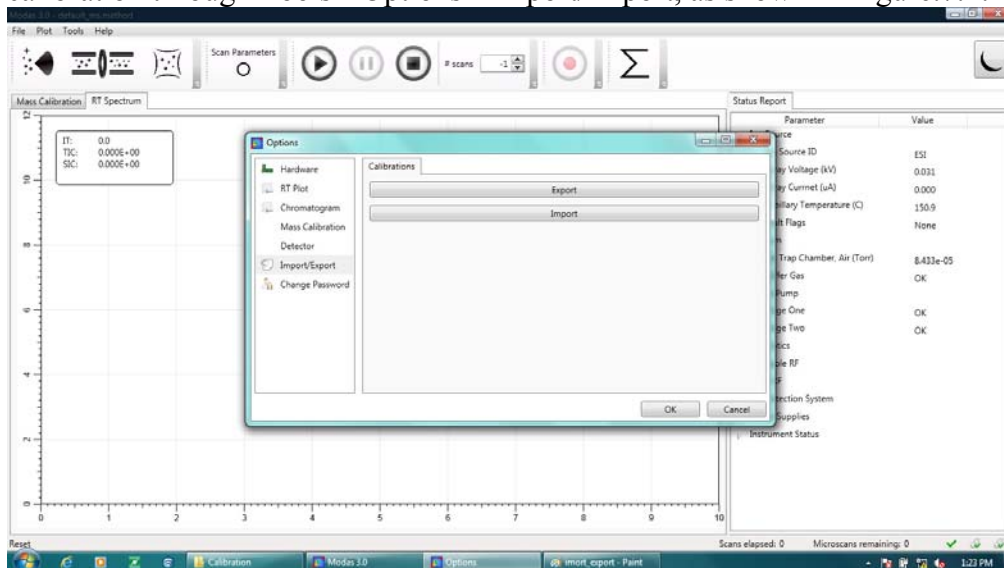

Figure 7.2 Dialog Box for the Mass Calibration saving (“Export”) and loading (“Import”).
Before the Mass Recalibration procedure is performed, it is strongly recommended to save the existing mass calibration. The Power User can access the dialog window for saving (Export) and loading (Import) of mass calibration through Tools->Options->Import/Export, as shown in Figure.7.2:
The MODAS software provides flexibility to calibrate the instrument based on a single or multiple spectrum/spectra. The spectrum (or spectra) used for calibration can be either acquired in real time (RT) or saved on hard-disk. MODAS maintains four types of calibrations (Low Mass/Normal Mass; Positive/Negative ion modes) that can be saved/loaded as a single calibration file (Figure 7.2).